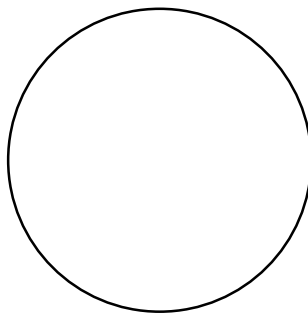

Fig.2
3. Complete Fig.2 to show the :-